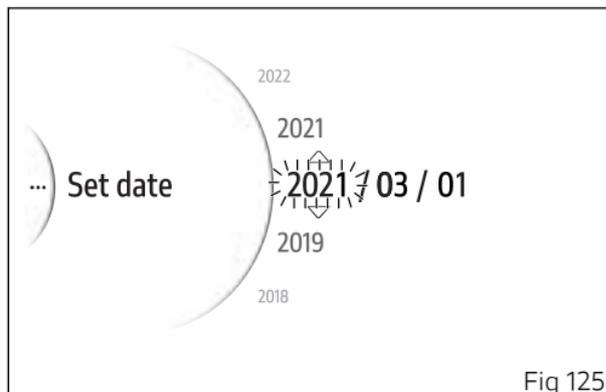

Fig 125
- Use buttons (1) and (2) from the Interactive Menu to select the "Setting menu" item and press ENTER (3).
- Select the "Date and time" item and press ENTER (3).
- Select the "Set date" item and press ENTER (3).
The first parameter of the date (Fig 125) starts flashing and is displayed with two arrows placed above and below it; the available values for the selected parameter are also displayed. Use buttons (1) and (2) to scroll and select the desired value. Press ENTER (3) to confirm and move on to the following parameter.